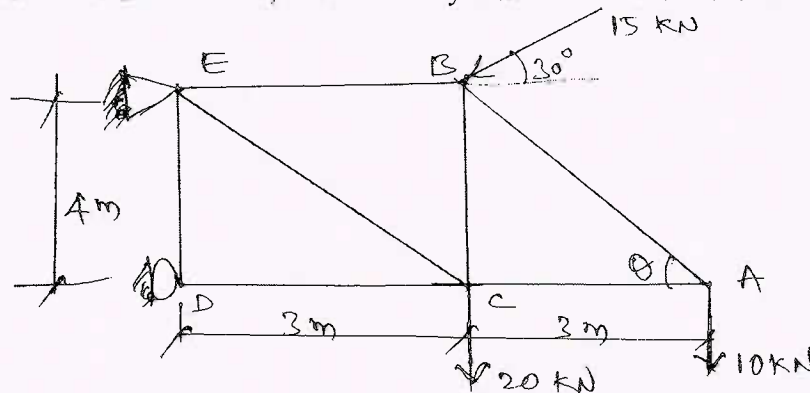

Fig.Q2(c)
c. Find the forces in the members EB, EC and DC by method of sections shown in Fig.Q2(c).